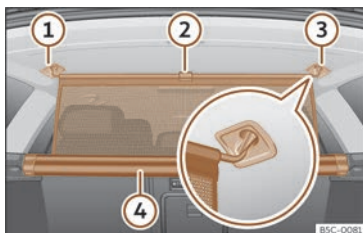

Fig. 181 In the boot: securing the partition net.
- Pull up handle >>> **Fig. 181** ① to remove the net from the casing ④.
- Hook in the net partition on the right or left side ③ (magnified image).
- Hook in the net partition into the housing on the other side ① by pulling the rod.